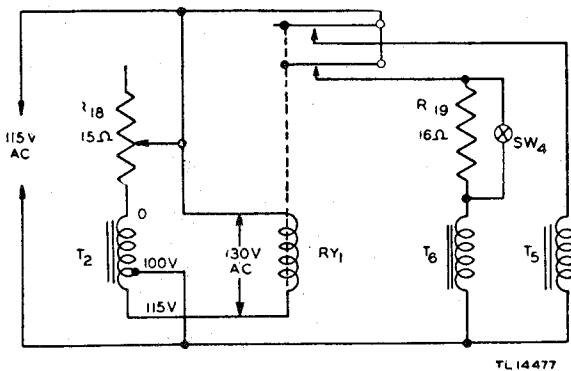

Figure 74. Plate power relay  $RY_1$ —functional diagram.
a. **PLATE POWER RELAY  $RY_1$**  (fig. 74). Relay  $RY_1$  is a double-pole, single-throw relay located on the modulator deck of the transmitter. Its purpose is to apply plate power to the transmitter. When the coil of relay  $RY_1$  is energized, one pair of the relay contacts applies a-c power to the primary winding of the high-voltage power transformer  $T_6$  and the other pair of contacts apply a-c power to the primary winding of the exciter power-supply transformer  $T_5$ .